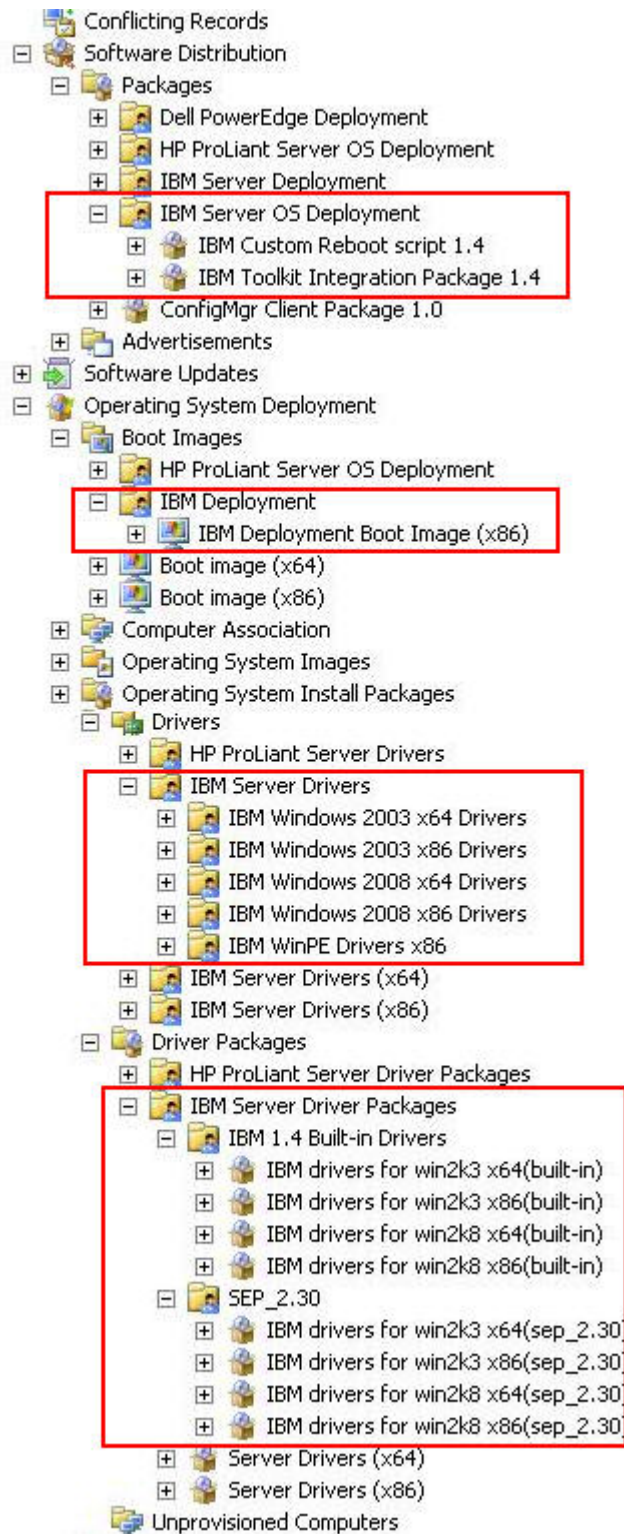

Figure 7. Items added to the SCCM console after installing the IBM Deployment Pack
10. After importing completes, ensure that all components are installed on SCCM Server. (Figure 7 on page 10 shows components that should be added to SCCM site server after importing is completed.)